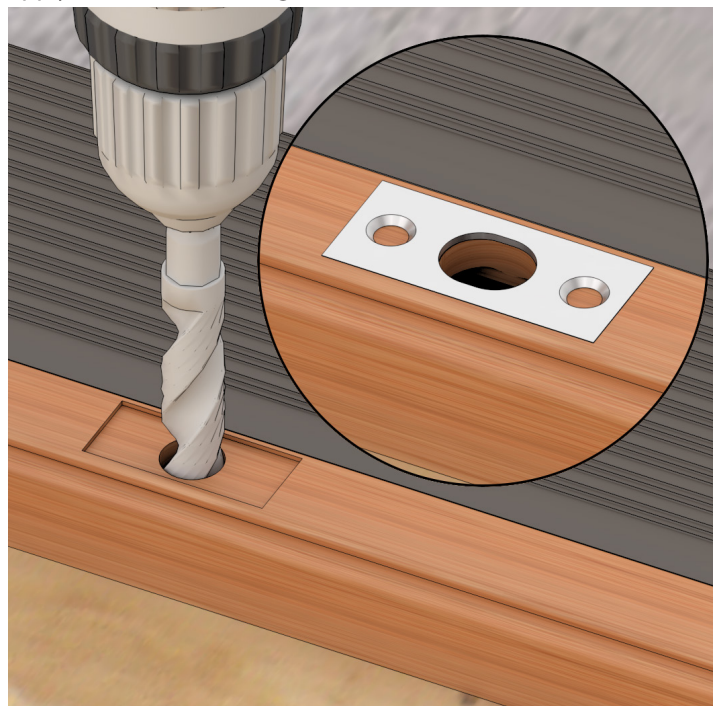

Figure 29
6. On pair doors, using the shoot bolt as a guide for center, drill a 3/4" hole in the sill. On Adjustable sill and hydro sill, Mortise strike in to wood liner. On ADA and Interlock Sills, directly apply strike to sill. See figure 29